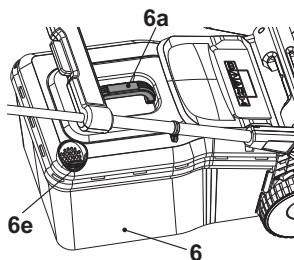

Fig. 14
1. When the hatch (6e) is opened the grass catcher has sufficient volume left to collect grass (Fig. 14).